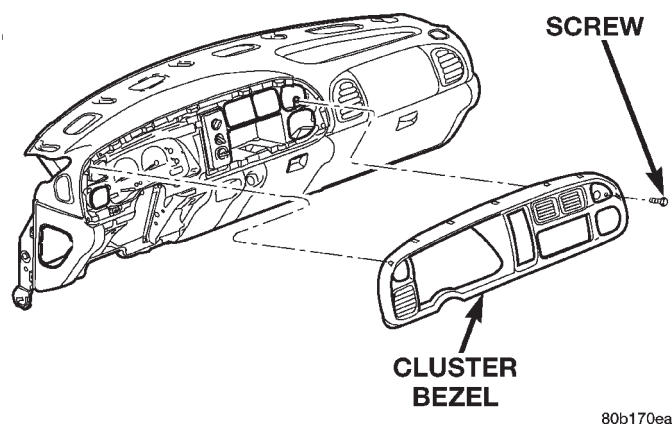

Fig. 3 Cluster Bezel Remove/Install
(1) Disconnect and isolate the battery negative cable.
(2) If the vehicle is equipped with an automatic transmission, turn the ignition switch to the Unlock position, set the parking brake, and place the automatic transmission gear selector lever in the Low position.
(3) If the vehicle is so equipped, set the tilt steering column in its lowest position.
(4) Open the door for the power outlet and remove the one screw that secures the cluster bezel to the instrument panel.
(5) Using a trim stick or another suitable wide flat-bladed tool, gently pry around the perimeter of the cluster bezel to disengage the snap clip retainers that secure the cluster bezel to the instrument panel (Fig. 3).